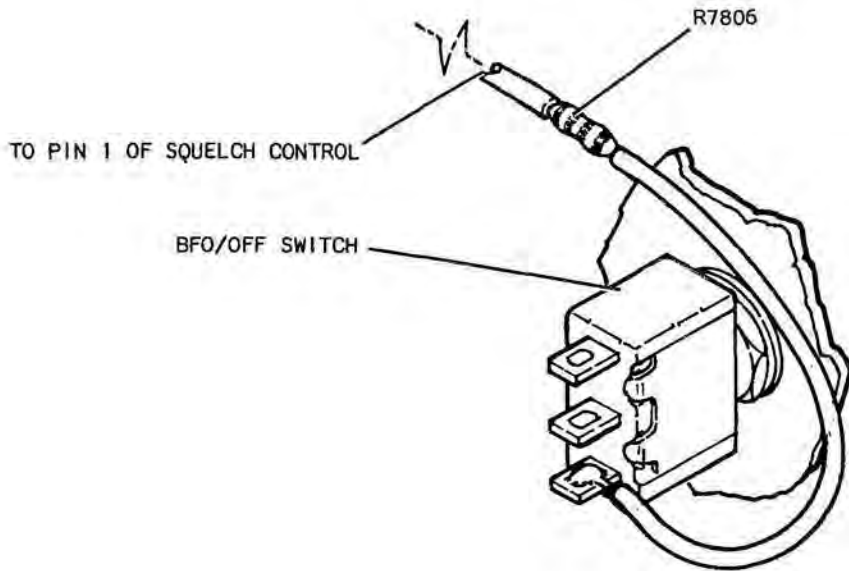

Figure 6-12 BFO/OFF Switch Installation
- G. BF0/OFF Switch (10) by attaching:
1. Lock washer and switch (10) at rear of panel (72); flat washer and hex nut at front of panel (72).
2. Insure that switch is installed as shown in Figure 6-12 before soldering wires.